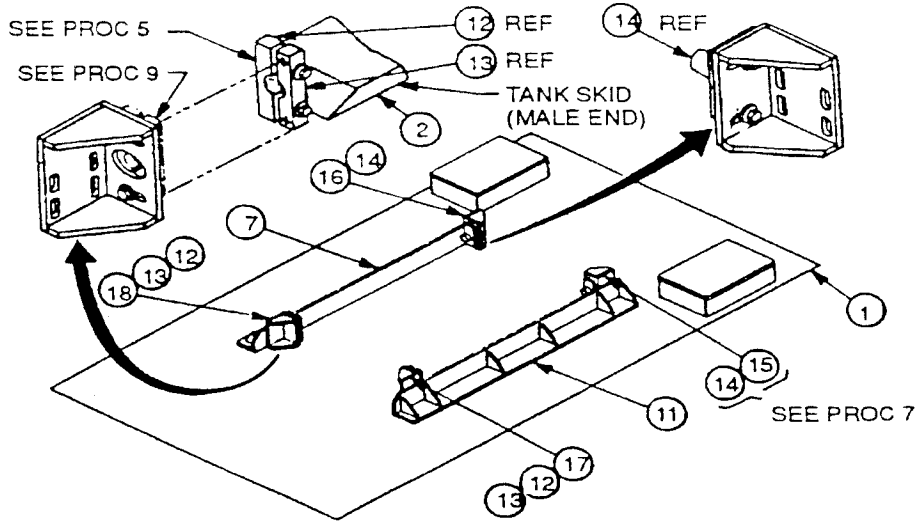
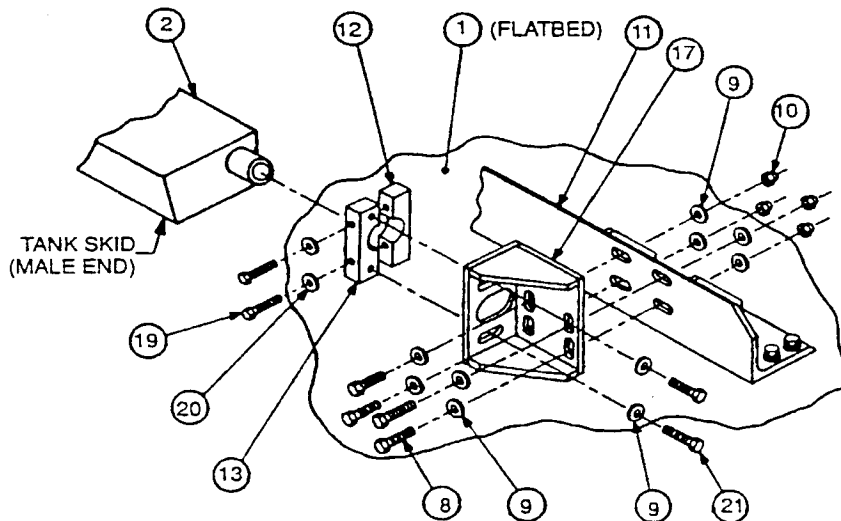
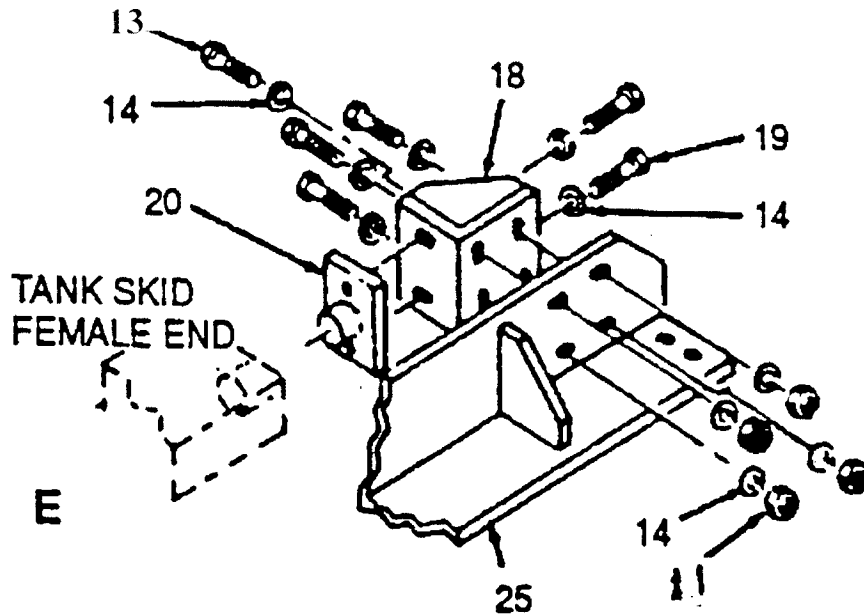

Figure 4-3 Preparation for Tank Installation.
Figure 4-4 Angle/Bracket/Clamping Adapter Assembly.
Figure 4-7 Angle/Bracket/Socket Adapter Assembly.
(c) Orient and position inboard and outboard clamping adapters, (12 and 13), and attach to post protruding from one skid on tank (2), using two screws (19), and two washers (20). Install hardware only finger tight, enough to retain adapters during positioning of tank. Repeat procedure at post on the other side. Note that positions will be reversed (inverted) to maintain the inboard position of adapter (13). See Figure 4-3 and Figure 4-4.
(f) Loosely attach one socket adapter (20), with the curbside end angle bracket (18), using two screw (19), and two washer (14). Repeat procedure at the other skid. See Figure 4-7.
(g) Starting at the secured mounting angle (25), fit the adapter, with the appropriate angle bracket assembled, into socket on that skid of the tank and loosely attach the angle bracket to the mounting angle using four screws (13), eight washers, (14), and four nuts (11). Repeat procedure on the other side. See Figure 4-7.
(h) At the other end of tank, again starting at the secured mounting angle. Attach the appropriate clamping end bracket (17 or 18 Figure 4-3) to the assembled clamping adapters, on post of tank skid (step (c), above). Install two screw (19, Figure 4-7) and two washer (14, Figure 4-7) through bracket into tapped holes in the inboard adapter (13, Figure 4-4), finger-tight only.
(i) Loosely attach clamping end bracket to mounting angle using four screw (19), eight washer (14), and four nuts (11). Repeat procedure in steps (g) and (h) for far-side. See Figure 4-7.